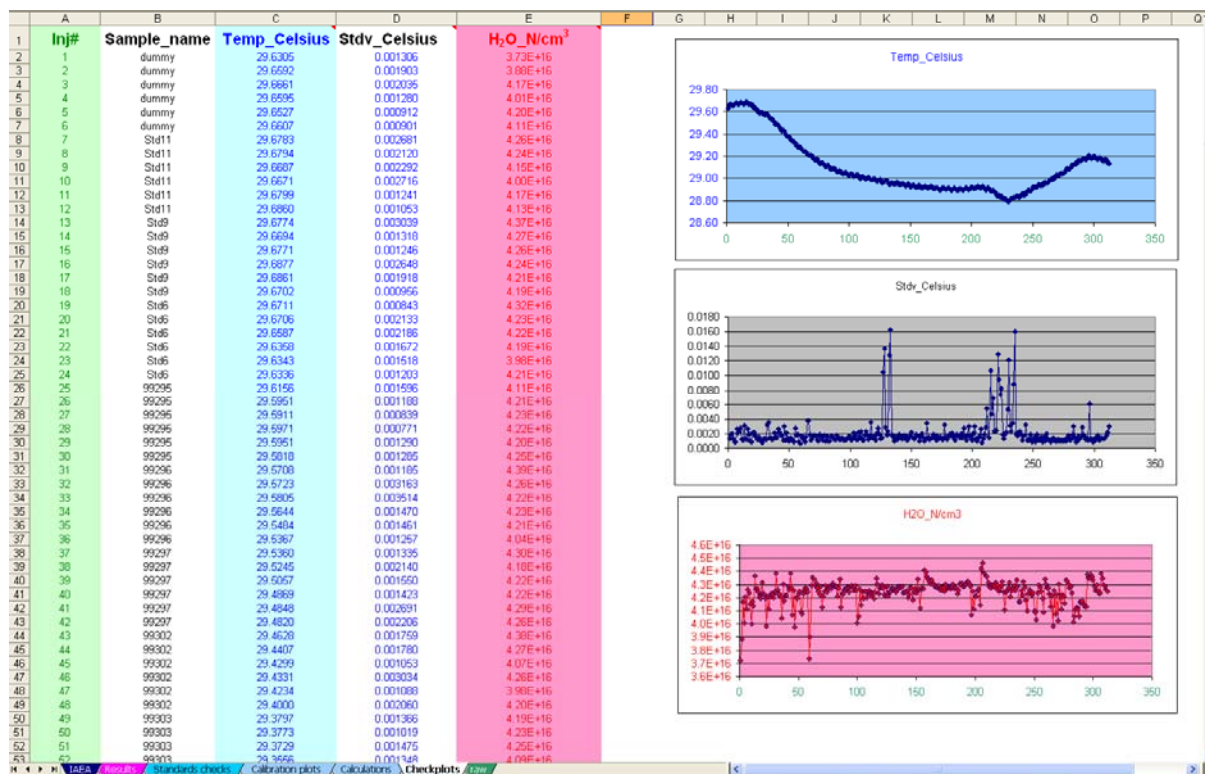

Figure 6. Examples of the three checkplots.
7. Go to the worksheet named “**checkplots**” (Figure 6). Here you will do the first evaluation of the overall quality of the run. Be aware that you may need to rescale the Y-axes. The plots should be scaled to show fine scale variations in temperature and amount of water injected into the cavity in order to see potential problems.